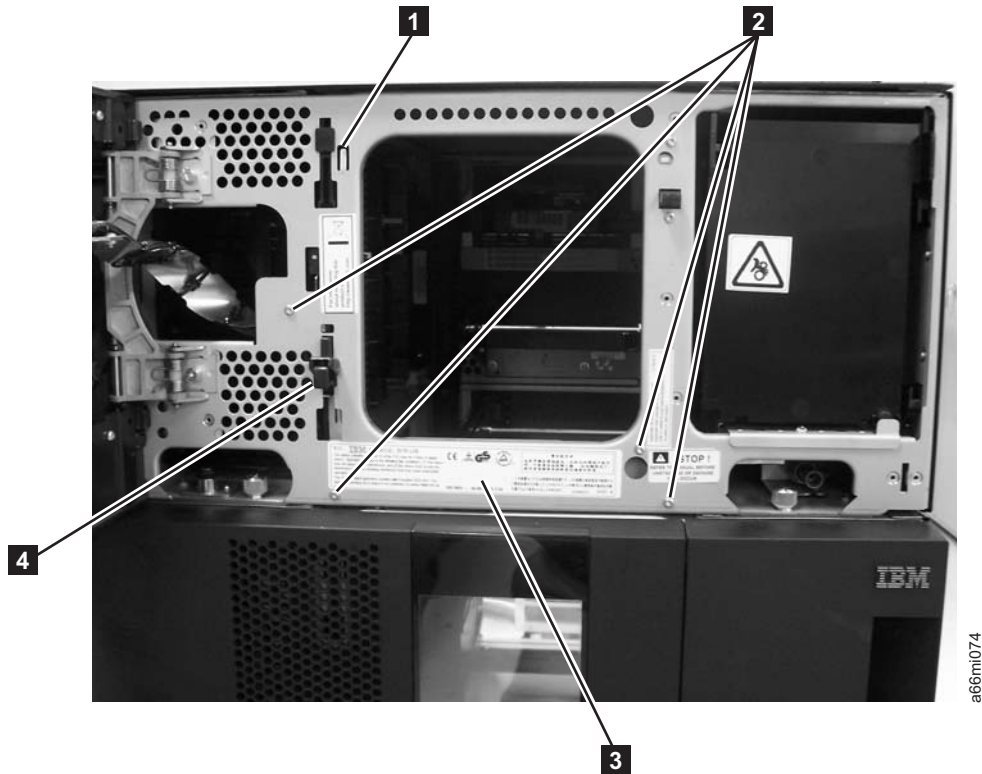

Figure 8-56. Front gear rack
3. There is a small metal tab in the chassis frame (**1** in Figure 8-56 on page 8-59) that prevents the gear rack from falling down too far when the locking mechanism is released. Bend the tab out slightly so the gear rack can be removed.
4. Slightly push up and pinch the gear rack locking mechanism to unlock the front gear rack (**4** in Figure 8-56 on page 8-59).
5. While pinching the gear rack locking mechanism (**4** in Figure 8-56), push the gear rack down, then release your hold on the locking mechanism.